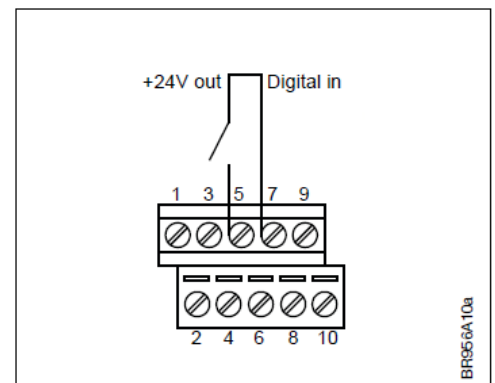

Fig. 11-7: Digital input
In case the application requires an external enable signal, this can be realised by connecting a potential-free contact to terminals 5 and 7, as shown in fig. 11-7. Alternatively, a 24 VDC control signal can be connected to terminal 7 its reference potential (GND) to terminal 9.
When connecting a potentiometer, it is recommended to scale the analogue signal from 24 V to 10 V. For this purpose, a resistor (R) is required in series with the potentiometer (see fig. 11-7). The resistor's nominal resistance should be 1.4 times the potentiometer's nominal resistance. Example: For a 10 kΩ potentiometer, a series resistor with 14 kΩ is optimal.